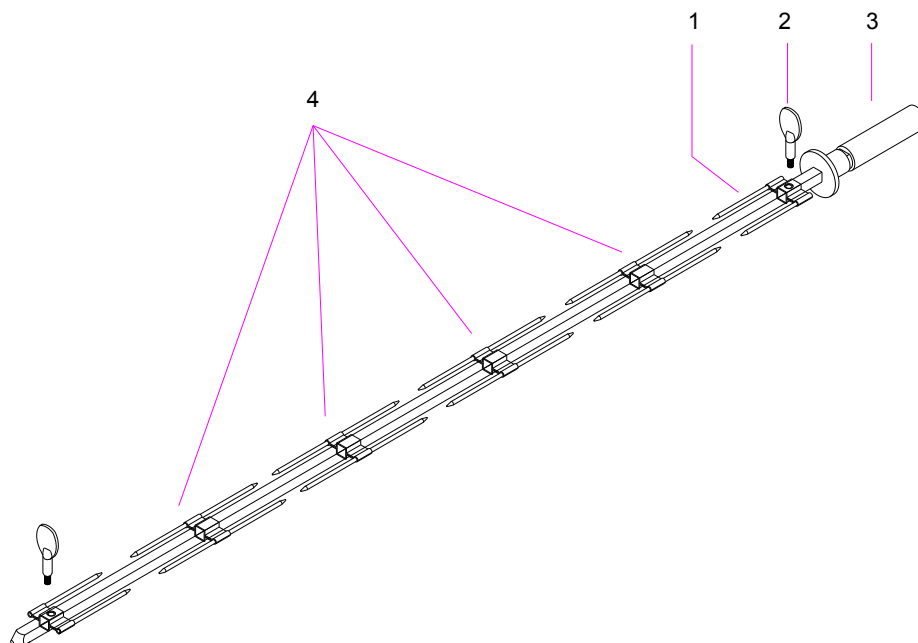

Fig. 5
- a) Put the simple skewer (1) in the spit (3) until it reaches the safety limit of the spit. Then fix it with the screw (2). (See fig. 5).
- b) Then place a chicken on the spit and hold it in place with the skewer already in position. Put the double skewer (4) on the spit and in a chicken. Repeat this operation until the spit is fully loaded and finally put a simple skewer in place and fix it with its screw.